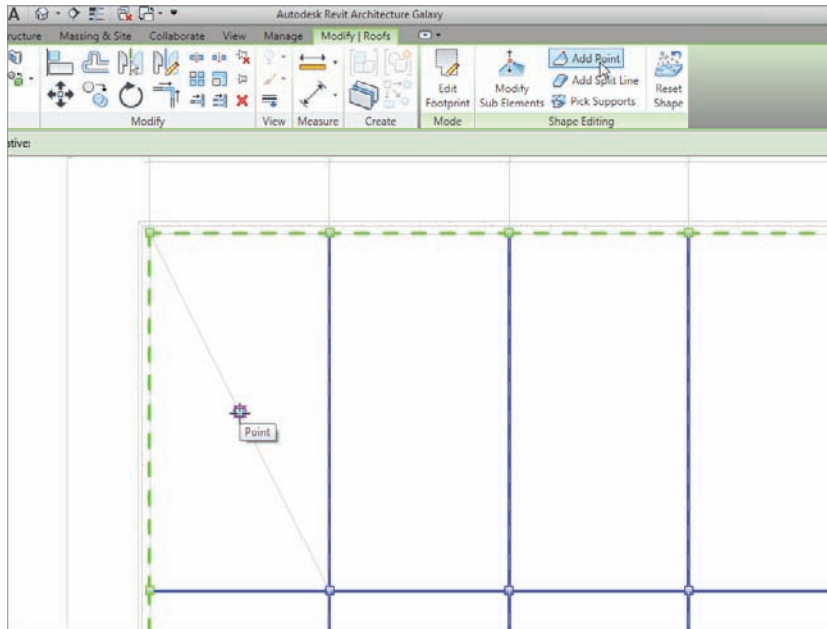

FIGURE 7.12 Add a temporary line, and then pick a point to pitch the insulation to.
21. Draw a diagonal line from the two points shown in Figure 7.12.